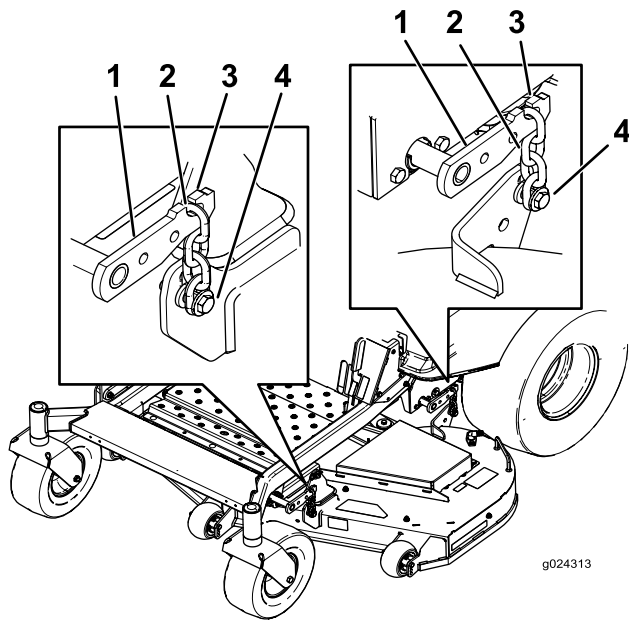

Figure 72
5. Loosen the adjustment bolts on all 4 corners so that the deck is sitting securely on all 4 blocks (Figure 72).
6. Ensure that there is tension on all 4 chains (Figure 72).
7. Tighten the 4 adjustment bolts (Figure 72).